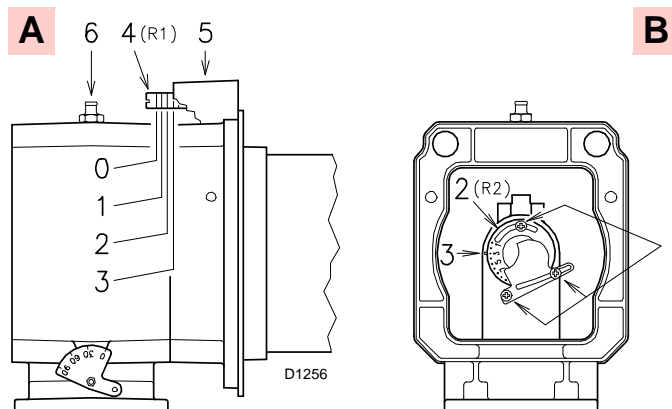

Fig. 13
At this stage of installation the blast tube and the pipe coupling are secured to the boiler as shown in A)(Fig. 13).
- air R1 (A, Fig. 13)
- gas/air R2 (B, Fig. 13)
Rotate the screw 4)(Fig. 13) until the notch you have found corresponds with the front surface 5)(Fig. 13) of the flange.
To facilitate the adjustment, loosen the screw 6) (Fig. 13), adjust, then block.
Loosen all 3 screws 1)(Fig. 13) and rotate the ring nut 2) until the notch you have found corresponds with the index 3). Block the 3 screws 1).
allows it, by closing the ring nut 2) (Fig. 13) you obtain reductions in the formation of NOx.